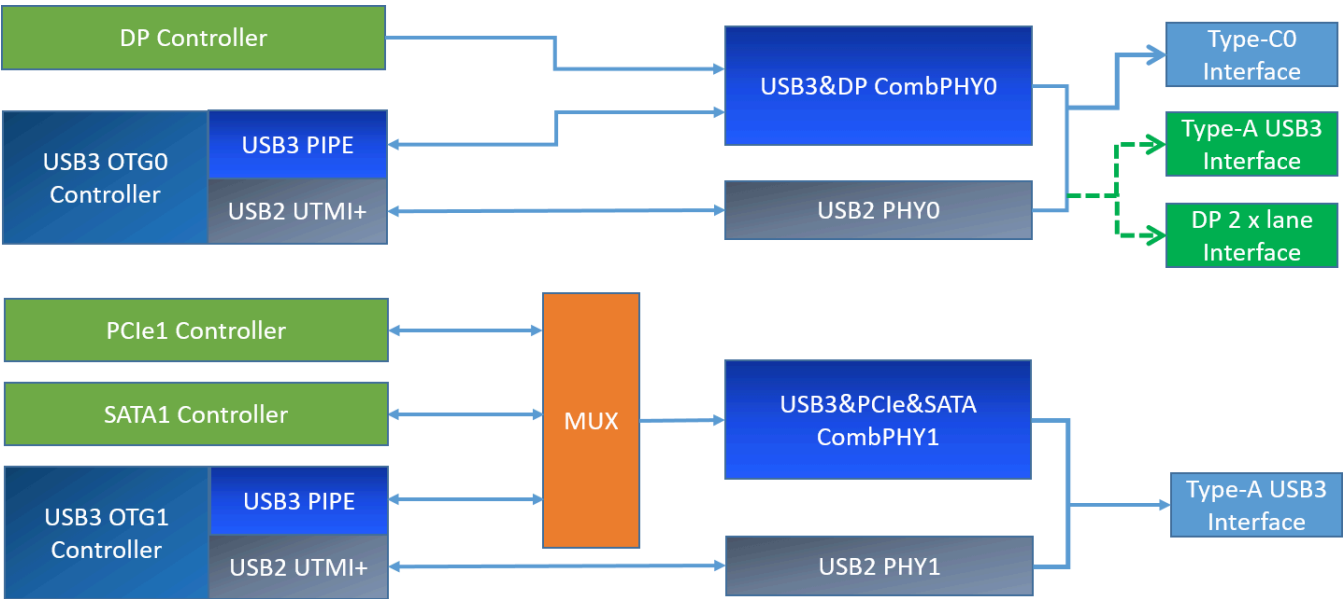

Figure 1 Schematic diagram of RK3576 USB controller and PHY connection
The internal connection relationship of the RK3576 USB controller and PHY, as well as the corresponding common USB physical interfaces, is shown in Figure 1 below.
1. The types of interfaces supported by RK3576 USB are not limited to the Type-C/A USB interface types described in Figure 1, and can also support all common USB interfaces, including Type-C USB 2.0/3.1, Type-A USB 2.0/3.1, Micro USB 2.0/3.1, etc. To adapt to different USB circuit designs and interface types, the Linux-6.1 kernel USB driver has been software-compatible, and developers only need to correctly configure the Linux USB DTS according to the product's USB hardware circuit to enable the corresponding USB interface functions. For detailed USB DTS configuration methods, please refer to RK3576 USB DTS Configuration.